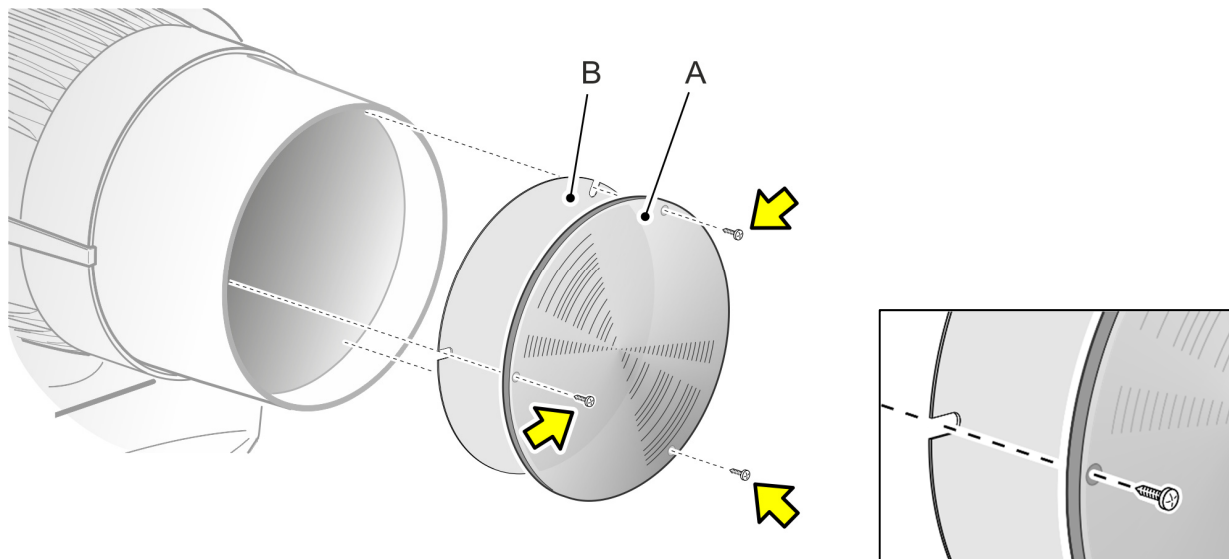

Figure 8. Removing a micro-Fresnel lens
2. See Figure 8. Remove the three Phillips #1 screws (arrowed) from the lens in the front of the head.